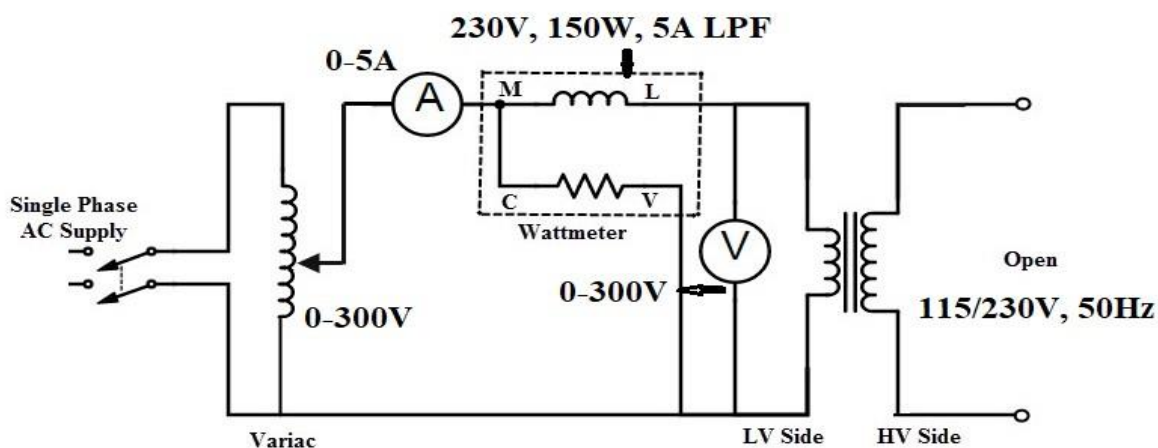

Fig.1. Circuit Diagram for Open Circuit Test of Transformer
1. Connections are made as per the circuit diagram fig.1.